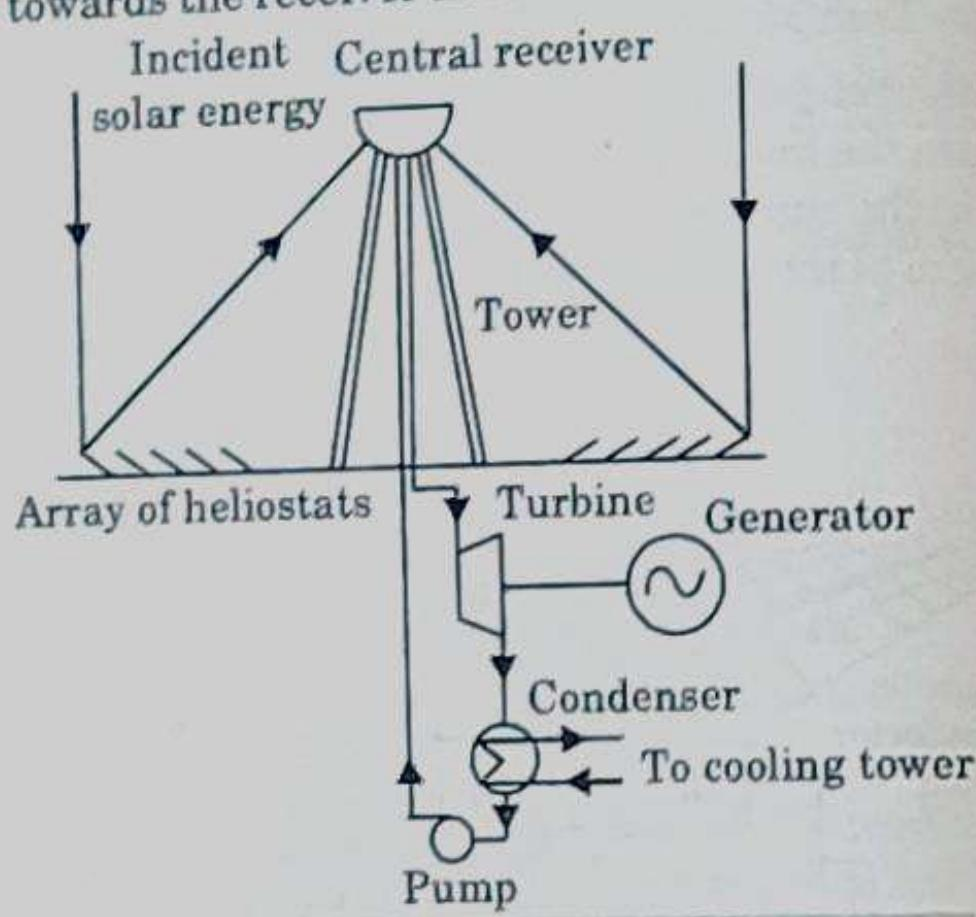

Fig. 2.18.3. Central receiver power plant.
3. The array is provided with a tracking control system that focuses the radiation towards the receiver as shown in Fig. 2.18.3.